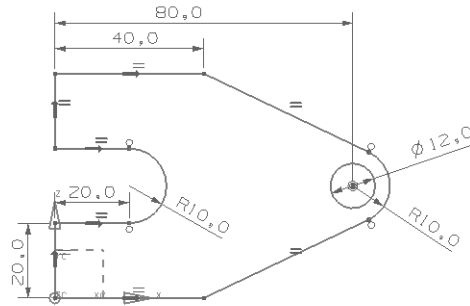

Figure 3-58 The final sketch after adding the required dimensions and constraints
2. Select the line 5 and place the dimension above the line. Modify the dimension value to **40** and press ENTER, refer to Figure 3-58.
4. Select the line 9 and place the dimension, refer to Figure 3-58. Next, modify the dimension value to **20** and press ENTER.
6. Select the arc 8 and place the dimension, refer to Figure 3-58. Next, modify the dimension value to **10** and press ENTER.
7. Select the arc 3 and place the dimension, refer to Figure 3-58. Next, modify the dimension value to **10** and press ENTER.
8. Select the circle and place the dimension, refer to Figure 3-58. Next, modify the dimension value to **12** and press ENTER.
The final sketch after adding the required dimensions is shown in Figure 3-58.